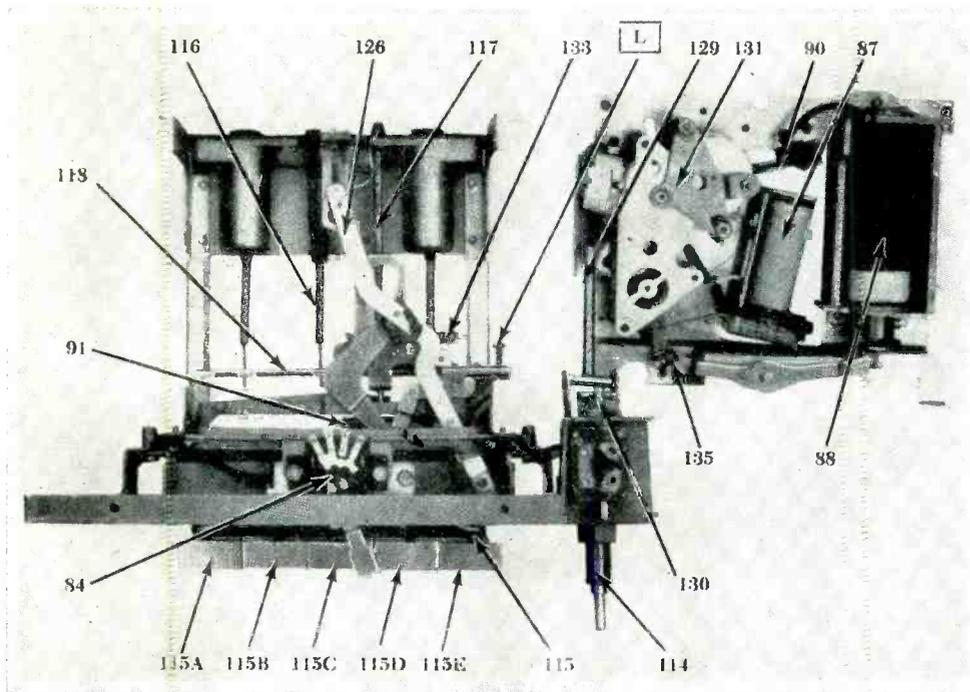

Fig. 3—Tuner open.
First and always, check the setting of the sensitivity switch lever, *Fig. 3*, item 84. Many owners do not understand the use of this switch and may need education as to its use. When left in the minimum sensitivity position the tuner will almost always roll without stopping. For checking purposes, it should be left full on to the right.
As in all previous models of signal-seeking radios, the greatest sources of trouble have been in the "contact" devices, namely the switches and relays. Most common is the case when the pointer moves to 1600 kc and stops. The reversing switch contacts, *Fig. 3*, item 90, may be burnished and adjusted for proper throwing action. In the majority of cases, however, the switch must be replaced.
When mechanical operation of a tuner is faulty, the gear train assembly, Fig. 3, item 131, must be removed. Typical complaints are: hesitation, crawling, jamming, machine gunning and slippage of manual tuning. Removal of the gear assembly is fairly easy when done with proper care. Proceed as follows:
2. Remove the nut holding the slide bar, Fig. 3, item 117, to the coil frame.
4. Remove the clips and springs connecting the core and slide assembly, Fig. 3, item 118, and remove the assembly.
5. After loosening the manual shaft setscrew, remove the clips, Fig. 3, item 135, and the three nuts holding the gear train assembly.
When a "machine gun" action is obtained, the tuner hits 1600 kc, bounces back but not all the way and keeps repeating. The planetary gear assembly may be at fault. This can be changed very easily by loosening its mounting plate nuts, Fig. 3, item 131, and sliding the shaft out of its bearing holes.
where corrosion of the plate relay contacts, Fig. 3, item 87, will cause the tuner to roll and not stop on stations. Careful handling and burnishing of the contacts can solve this situation or where very bad contact action is encountered, replace the relay. Contacts should be spaced very closely to make very quickly.
tuner power spring, Fig. 3, item 133, about 2 or 3 turns spacing. This may slow the tuner rolling action but not to any noticeable extent.